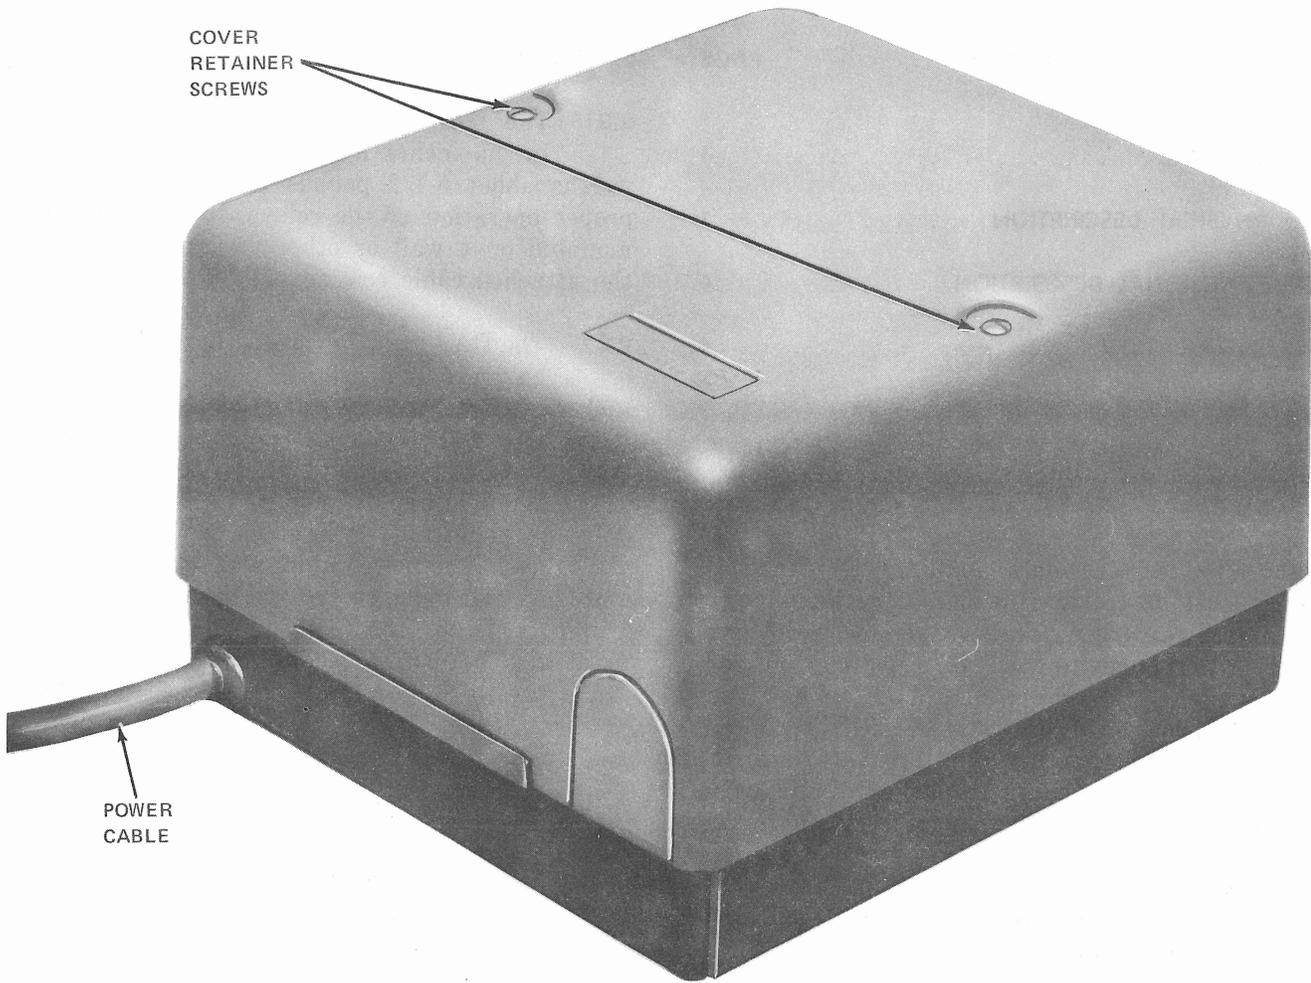

Fig. 1—828D Data Auxiliary Set With Cover
**2.01** The DAS measures about 6.9 inches wide by 7.5 inches high by 4.6 inches deep, and weighs about 5-1/2 pounds (Fig. 1 and 2). For proper operation of the relays, the DAS must be mounted on a wall or other vertical surface with the attached cable coming out of the bottom.